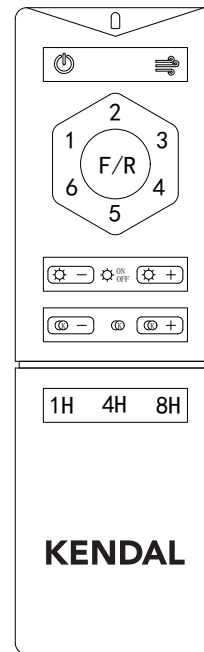

Figure 23
- A. Press the "⏻" button to turn off the fan (*this button is only used to turn off the fan, it cannot start the fan, and it will not turn off the LED lamp Fig.23)